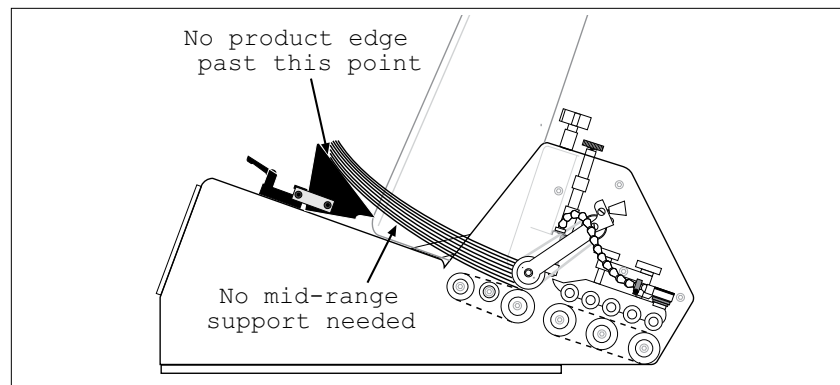

Figure 7-10. Extended Narrow Wedge Setup
**Ideal setup:** Adjust so wedge preshingles the bottom of stack against the curvature of gate assembly. Make sure edges of product do not extend back more than the mid-point of wedge. See Figure 7-10.